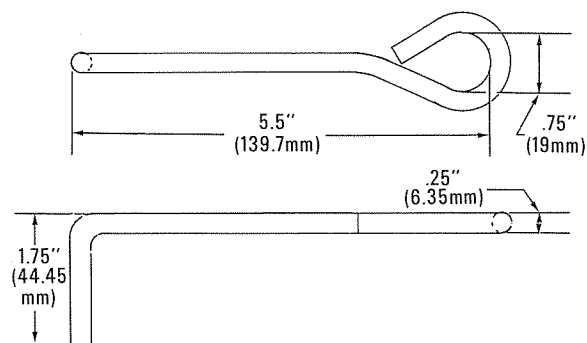

Fig. 11 Timing Pin
- g. On engines with second type mounting cover, install the timing pin through the lower window of the mounting cover and into the hole in the gear. This will lock the pump in position so that the proper pump drive gear tooth will mesh with the engine gear train. Make up timing pin according to dimensions in Fig. 11.